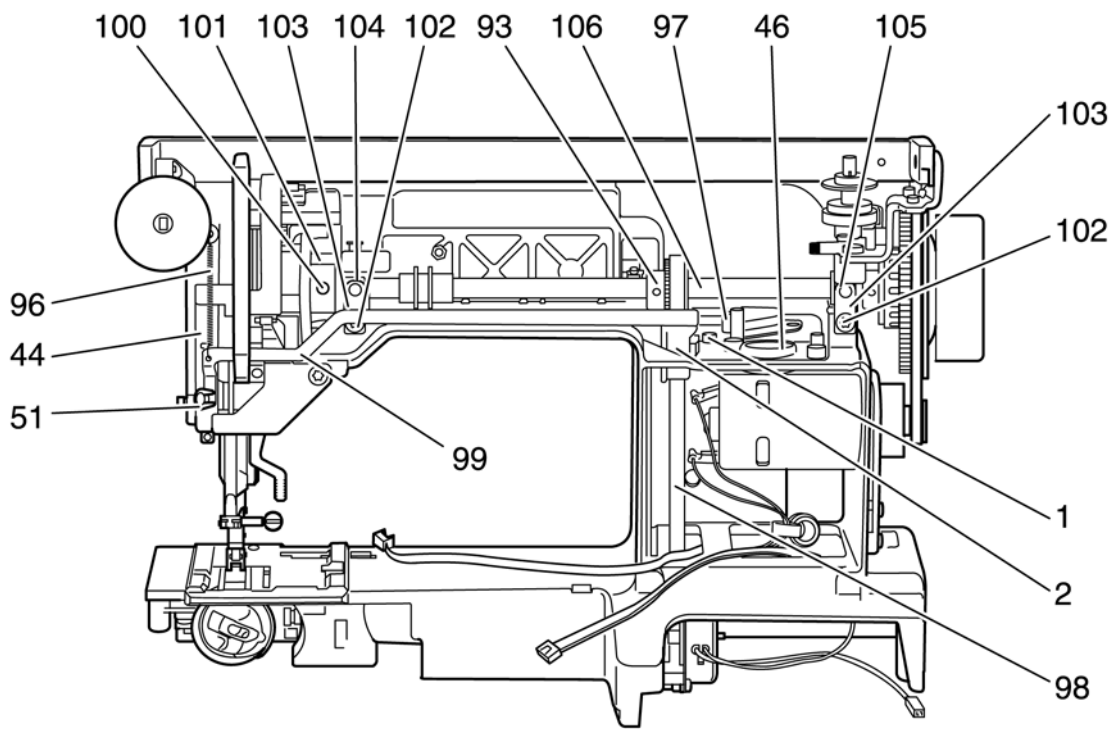

Fig. 77
- Feed arm shaft 106 from the right into the housing (fig. 77).
- Attach connecting rod 99 (fig. 77).